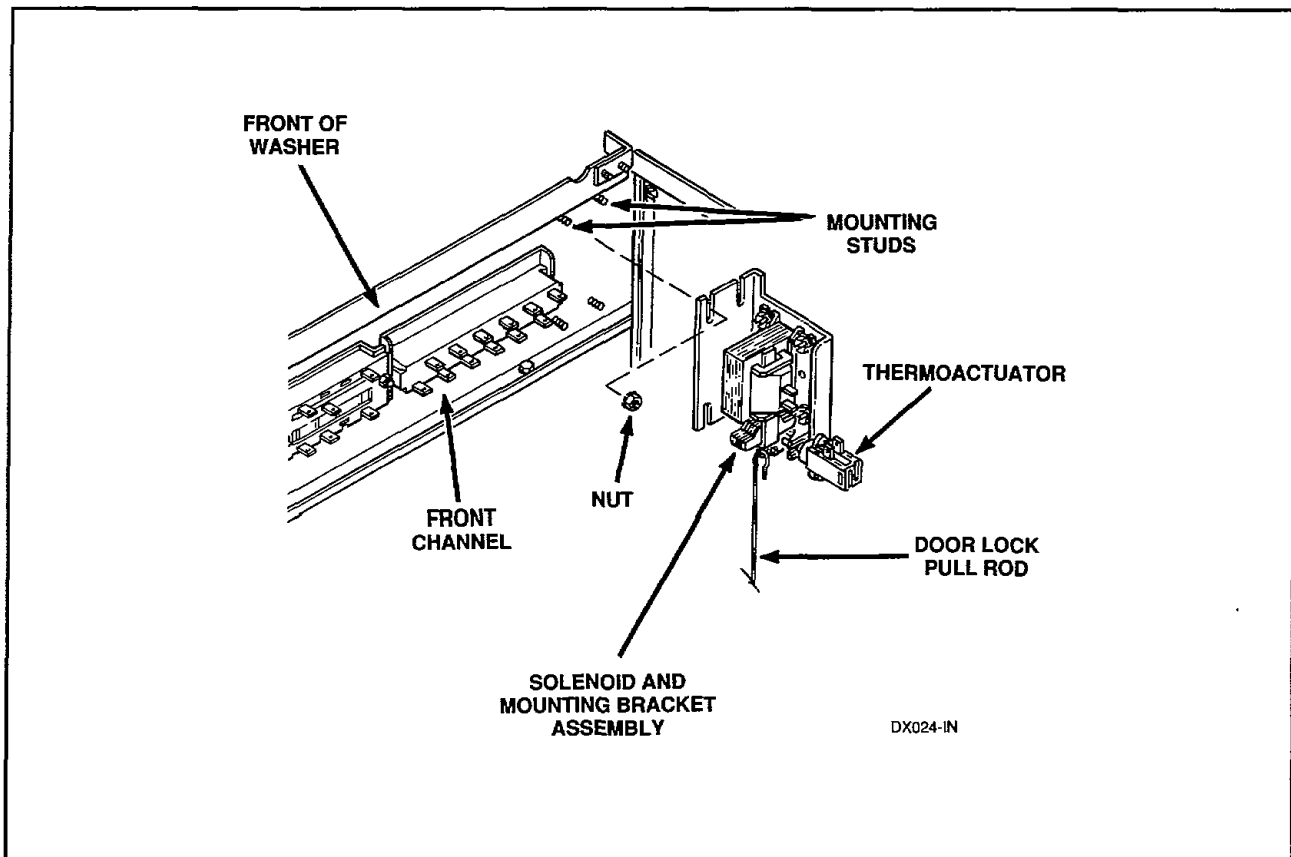

Figure 16
- e. Disconnect wires from solenoid and thermoactuator, *Figure 16*.
- f. Remove nuts holding solenoid and mounting bracket assembly to backside of front channel, *Figure 16*, then release pull rod from solenoid and remove solenoid, thermoactuator and mounting bracket assembly from washer.
- l. Remove nuts holding door lock solenoid and mounting bracket to backside of front channel and release pull rod from solenoid, *Figure 16*.